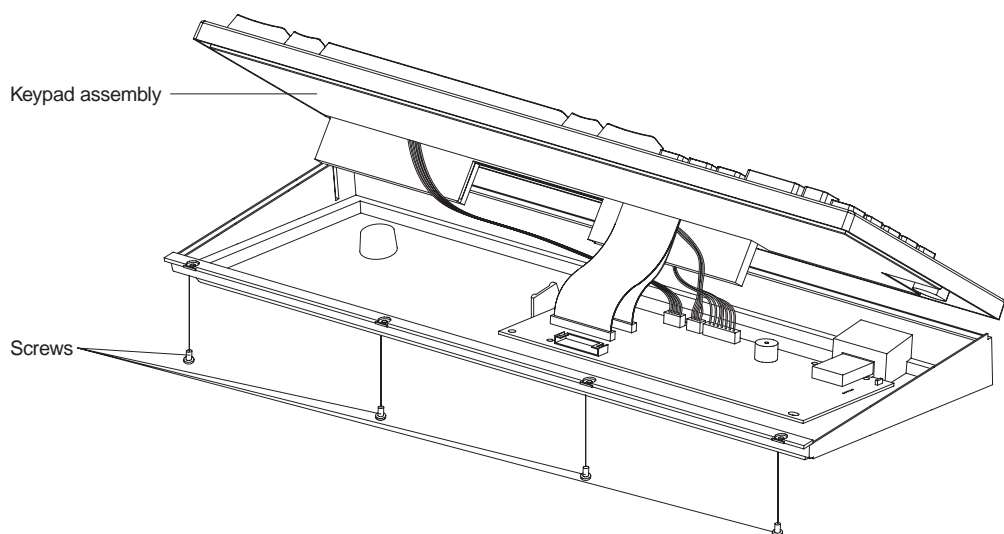

Figure 47. Removing the keypad assembly
2. Remove the screws (3 or 4, depending on the type of keyboard) from the underside of the front edge of the keyboard (see Figure 47).